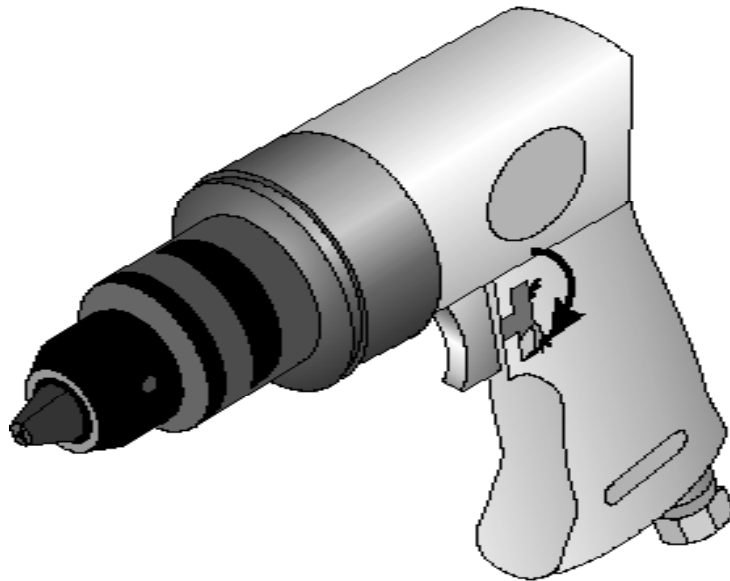

Figure 5 — Reversing the Rotation of the Drill Bit
Step 12: Flip the REVERSE VALVE (#20) to the “R” position as shown in Figure 5. This will reverse the rotation of the drill, allowing you to back out your drill bit.